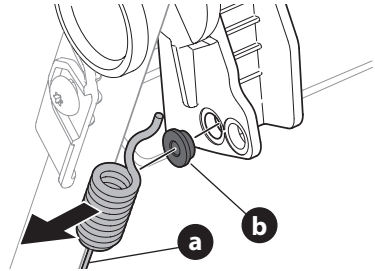

Figure 40
3. Unhook the cable (a) and remove the metal bushing (b) from the plastic drive handle (Figure 40).